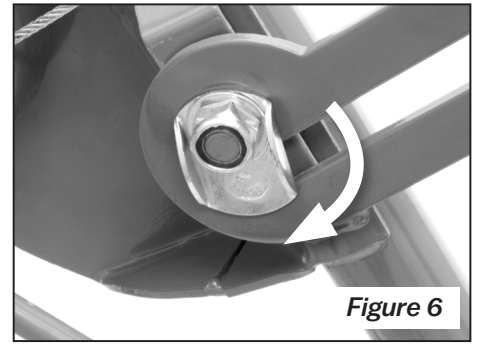

Figure 6
5. Press the winch assembly slightly back toward the frame (Figure 6). This automatically engages the slide bar lock to keep the winch fully extended.